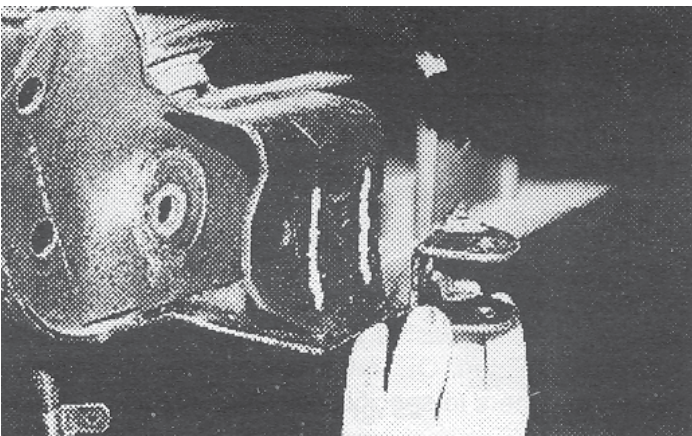

Fig. 12D
- (V) Cut OE steering stabilizer chassis mount flush with frame, **Fig. 12D.**